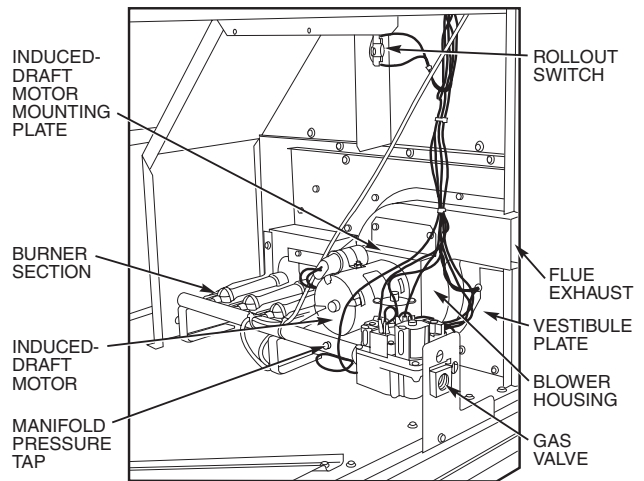

Fig. 52 — Burner Section Details
2. Remove the 6 screws that attach induced-draft motor housing to vestibule plate (Fig. 52).
(Fig. 52 and 53)